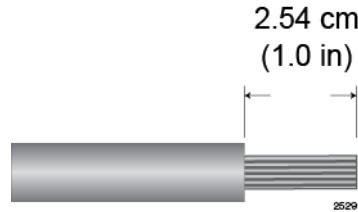

Figure 148. Stripping Solid or Stranded DC Power Wires
1. Prepare adequate lengths of two solid or stranded 8 AWG DC power wires by stripping them as shown in Figure 148.